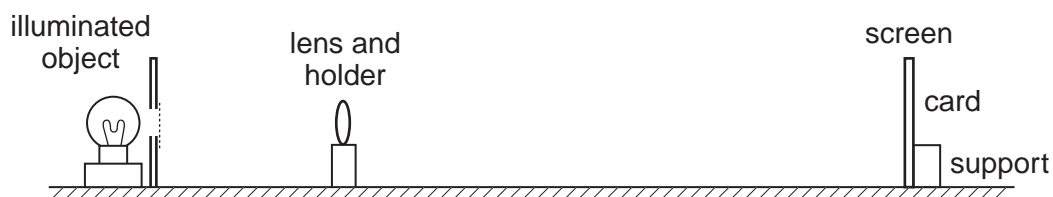
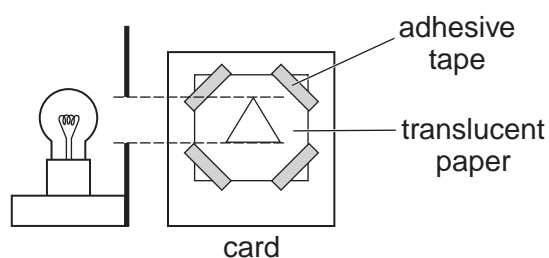

Fig. 4.1
Fig. 4.2
- (ii) Illuminated object with a small triangular hole (see Fig. 4.1 and Fig. 4.2). The hole is to be covered with thin translucent paper (e.g. tracing paper).